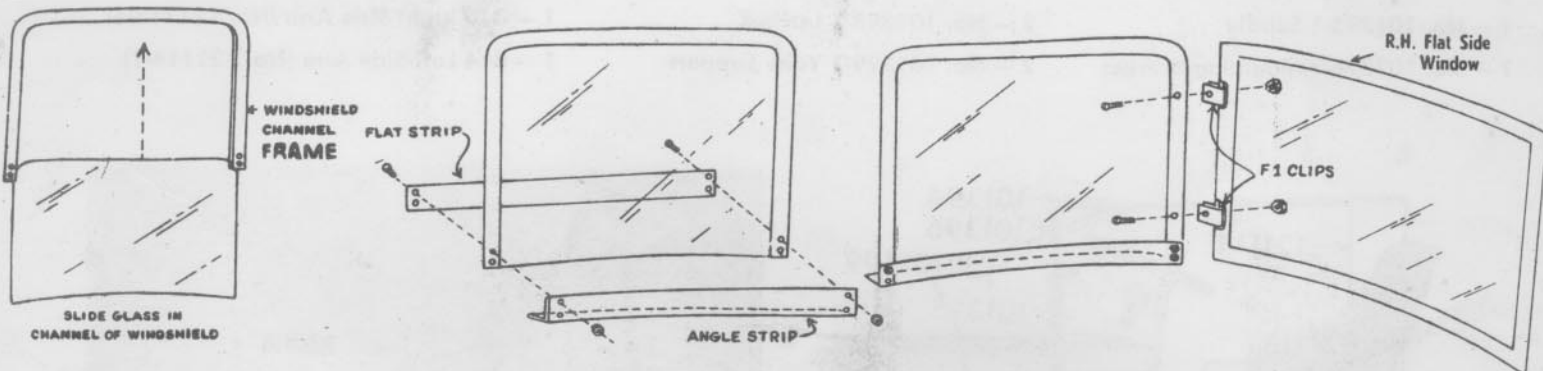

FIGURE 3
11. Straighten fabric cover and tie together under hood and under tractor. (See Figure 3).